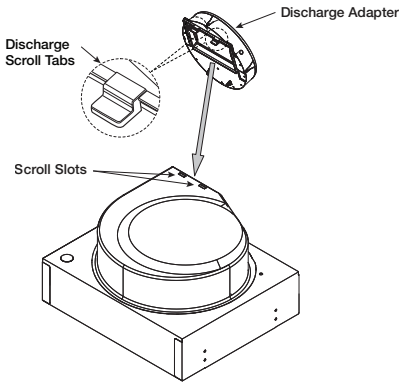

Figure 1
1. Insert discharge adapter tabs into the scroll slots, shown in Figure 1.